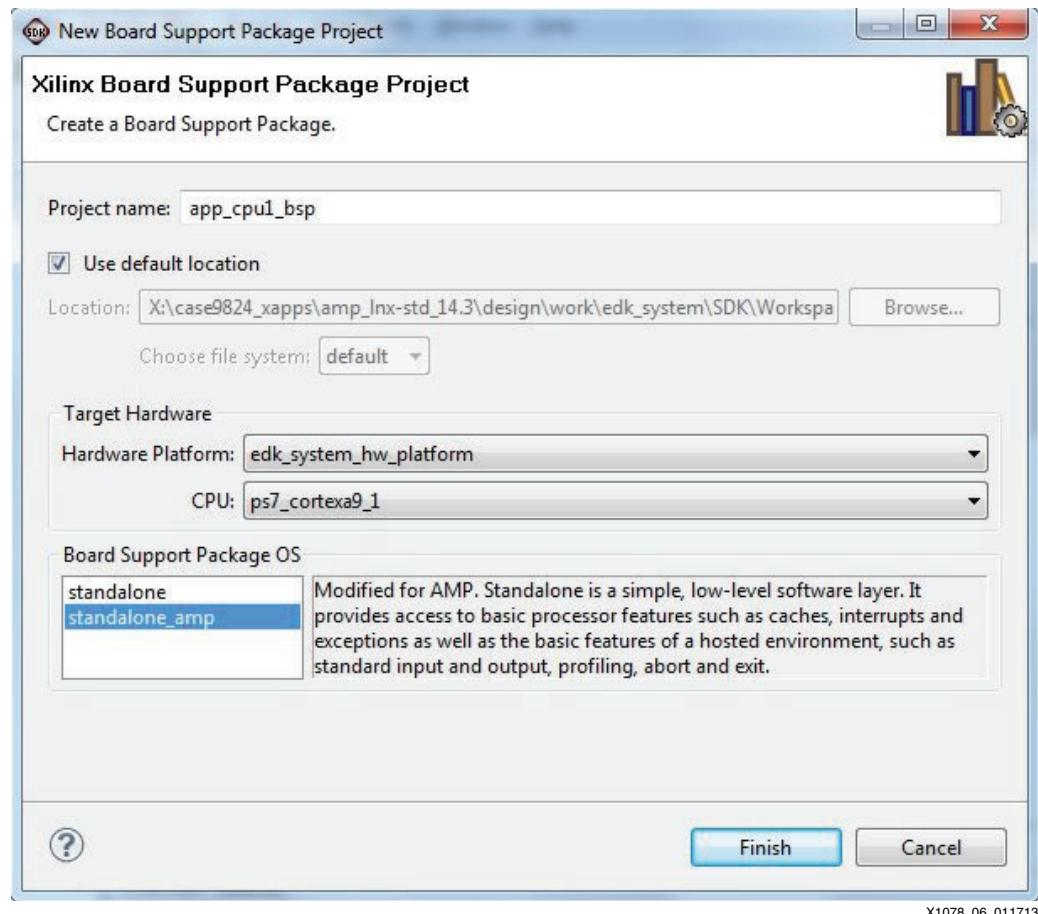

Figure 6: CPU1 BSP
1. Within SDK, create the BSP using the customized standalone BSP from the repository that was included with the design (Figure 6).